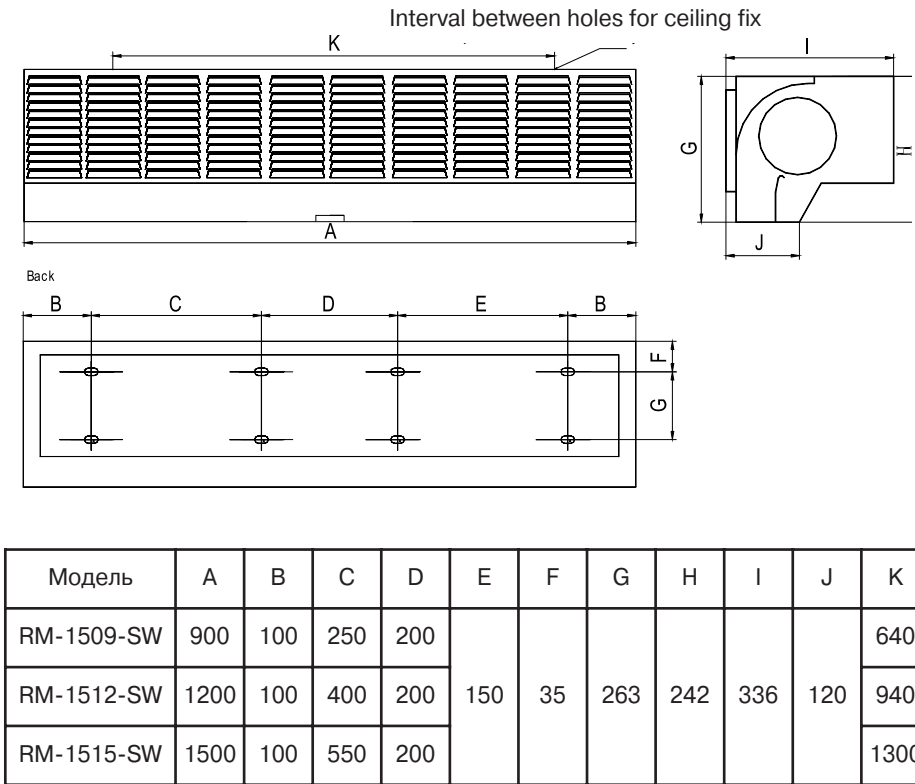

Figure 3. Identification and installation dimensions
7.1.2 Identification and installation dimensions (Fig. 3).